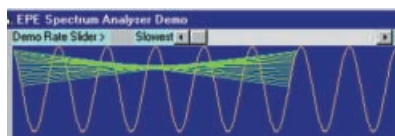

Fig.15. Example of the sample spans in the first stage of analysis.
On the first round, the span between points is half the total number of samples (512). An example taken at an early stage when sampling a sinewave is shown in Fig.15. The analysis relates the difference between the sample values to specific (pre-calculated) sine and cosine values. Each result is stored in sequence.